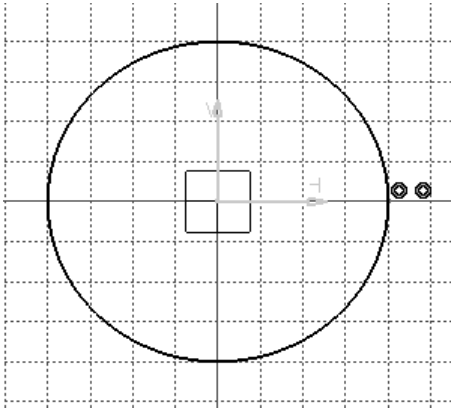

Figure 3-51 The sketch after drawing the first circle
- a. Start a new part file in the **Part** workbench and draw the outer loop of the sketch using the **Circle** and **By-Tangent Line** tools, refer to Figures 3-51 through 3-54.
3. Move the cursor horizontally toward the right and specify the radius of the circle at a point when the **R** edit box in the **Sketch tools** toolbar displays **40**; the circle is drawn, as shown in Figure 3-51.